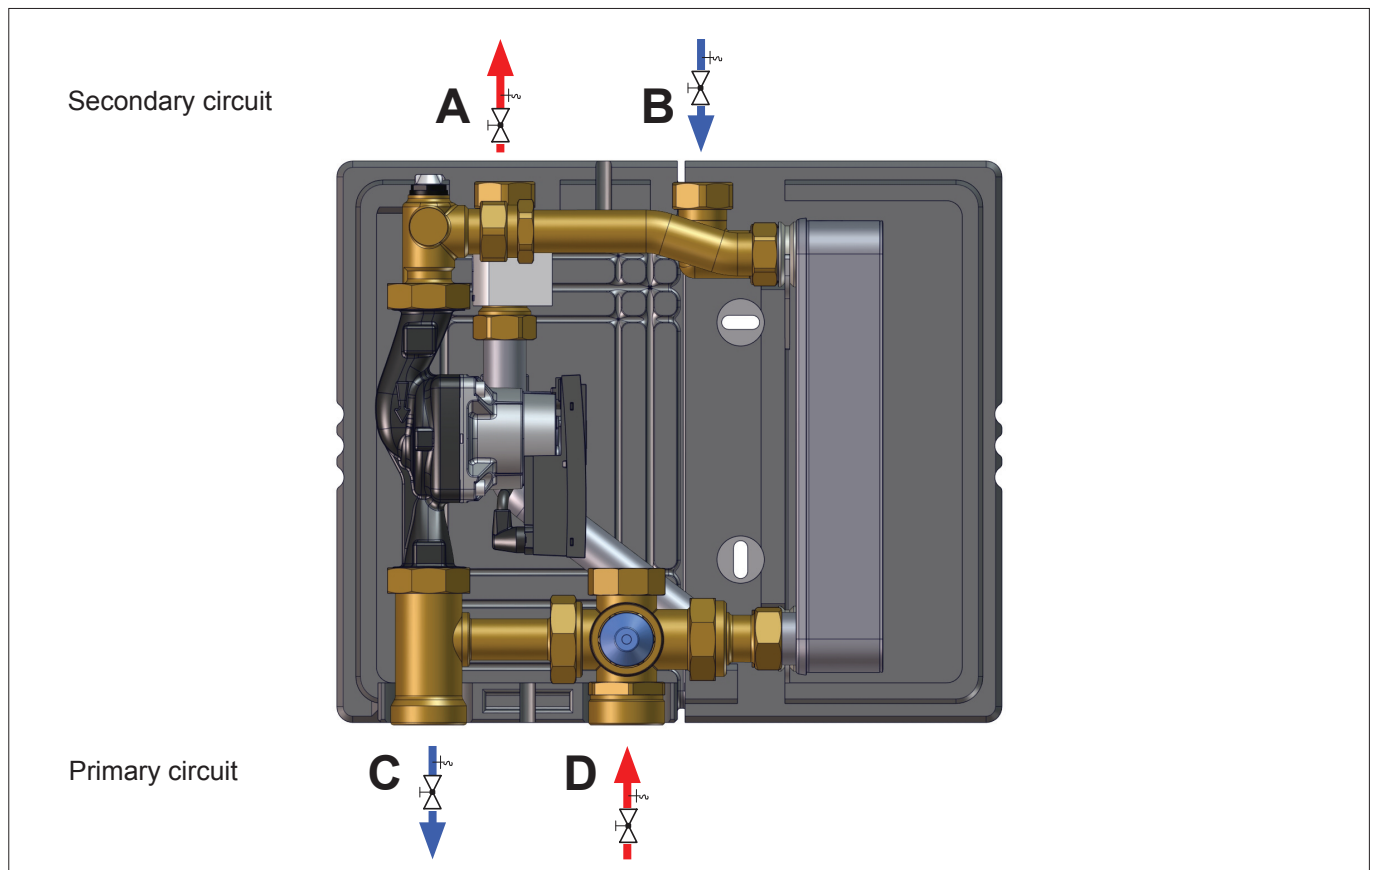

Fig. 5: Connecting Friwa Compact
1. Slowly open the shut-off valves (items C+D, Fig. 5 on page 11) on the primary circuit.
4. Slowly open the shut-off cocks (items A+B, Fig. 5 on page 11) on the secondary circuit.
3. Shut off the shut-off cocks on the supply and return lines (see Fig. 5 on page 11).
5. **Slowly** open the shut-off cocks on the supply and return lines (Fig. 5 on page 11).
3. Shut off the shut-off cocks on the supply and return lines (Fig. 5 on page 11).
5. **Slowly** open all of the shut-off cocks on the supply and return lines (Fig. 5 on page 11).